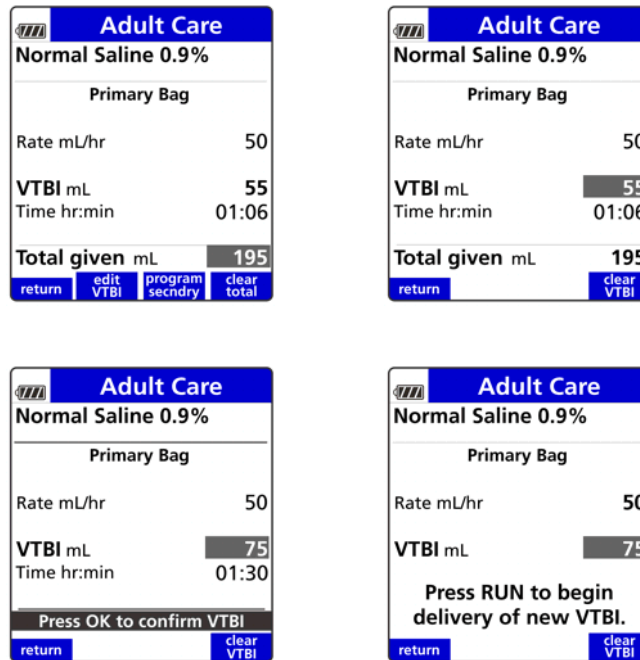

Figure 83. VTBI Review Screens.
2. At the Review screen, press the **edit VTBI** soft key. See Figure 83.
3. Enter new value and verify the VTBI is equal to or less than the volume in the container. See Figure 83.
4. Press **OK to confirm VTBI**. See Figure 83.